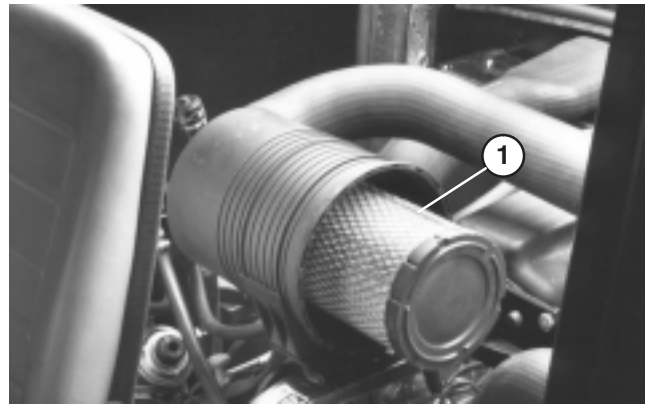

Figure 28
2. Gently slide primary filter (Fig. 28) out of air cleaner body to reduce the amount of dust dislodged. Avoid knocking filter against air cleaner body. **Do not remove safety filter.**